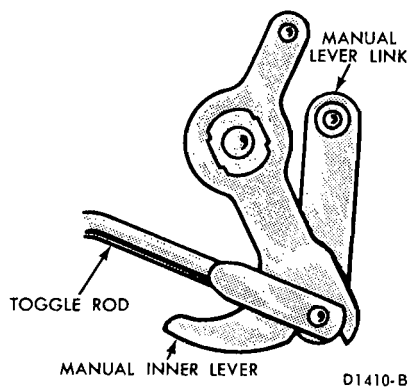

FIG. 67—Inner Manual Lever Location
11. Position the inner manual lever behind the manual lever link, with the cam of the lever contacting the lower link pin (Fig. 67).